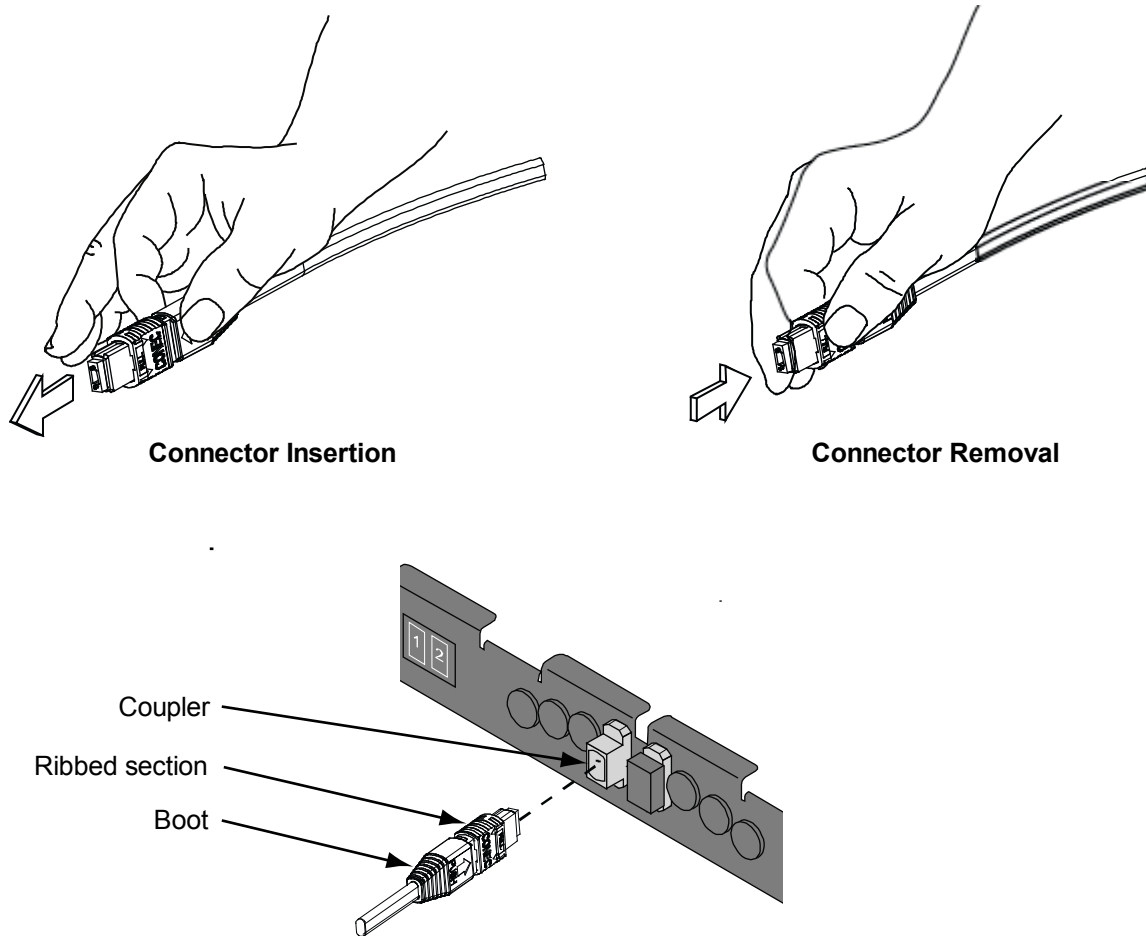

Figure 7. Inserting and Removing MPO Connectors
6. Grasp the connector by its boot, near the base of the connector as shown in Figure 7. With the white marks aligned, insert the MPO connector into the coupler until it clicks into place.